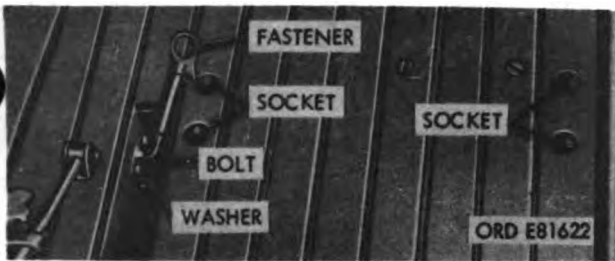

Figure 2-102. Spring cylinder fastener and seat sockets.
- (1) *Removal.* Unhook spring cylinder fastener from socket on seat back. Pull seat back up out of sockets in platform and eyelets in flap on rear lower corner of rear half-seat cushion. Separate rear half-seat cushion from front half, as directed in paragraph 2-84a(1).
- (2) *Installation.* Position rear half-seat cushion with eyelets in flap on rear lower corner aligned with sockets (fig. 2-102) in platform. Push two legs of seat back through eyelets, down into sockets in platform. Pull up on spring cylinder fastener, and hook into socket on right edge of seat back, securing back of platform. Attach front half-seat cushion to rear half, as directed in paragraph 2-84a(2).
*a. Removal.* Unhook spring cylinder fastener (fig. 2-102) from socket on seat back. Remove two hex nuts and lockwashers from bolts securing fastener to platform, and remove fastener from platform. Remove two bolts from fastener, and plain washers from bolts.
*b. Installation.* Position spring cylinder fastener as shown in figure 2-102. Install two